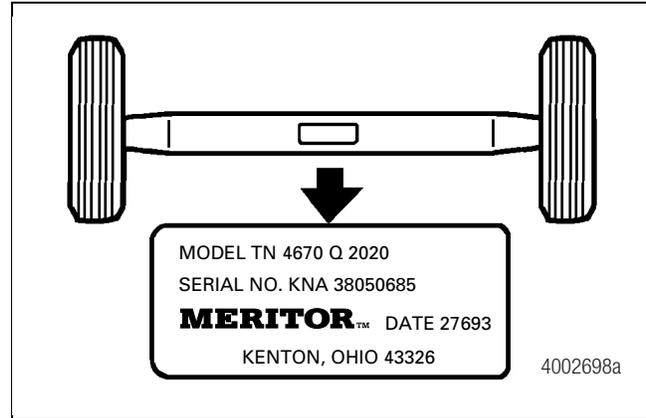

Figure 3
- ArvinMeritor axle model and serial number. Figure 3.